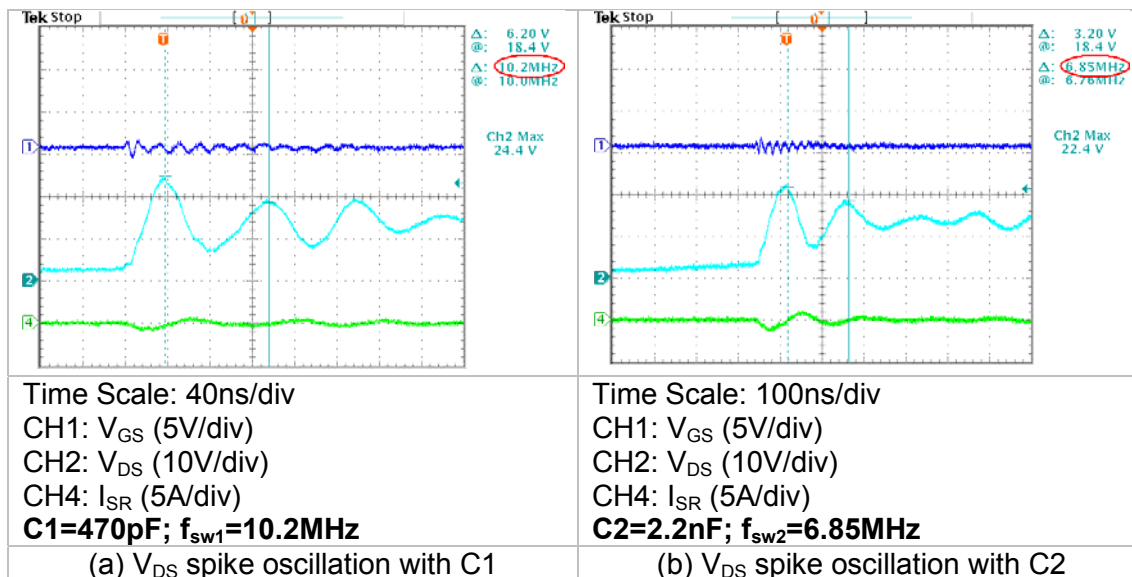

Figure 15 —Drain-Source Voltage Spike Oscillation
According to (13) and bench test results in figure 15, C_P and L_S can be calculated as $\sim 940\text{pF}$ and $\sim 0.2\mu\text{H}$.
- Secondary stray capacitance and inductance: $C_P = 940\text{pF}$, $L_S = 0.2\mu\text{H}$, which is already got from (13) and figure 15.